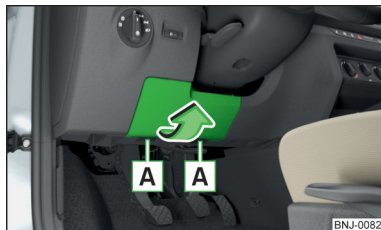

Fig. 178
- Remove the cover of the fuse box » Fig. 178 in the direction of the arrow.